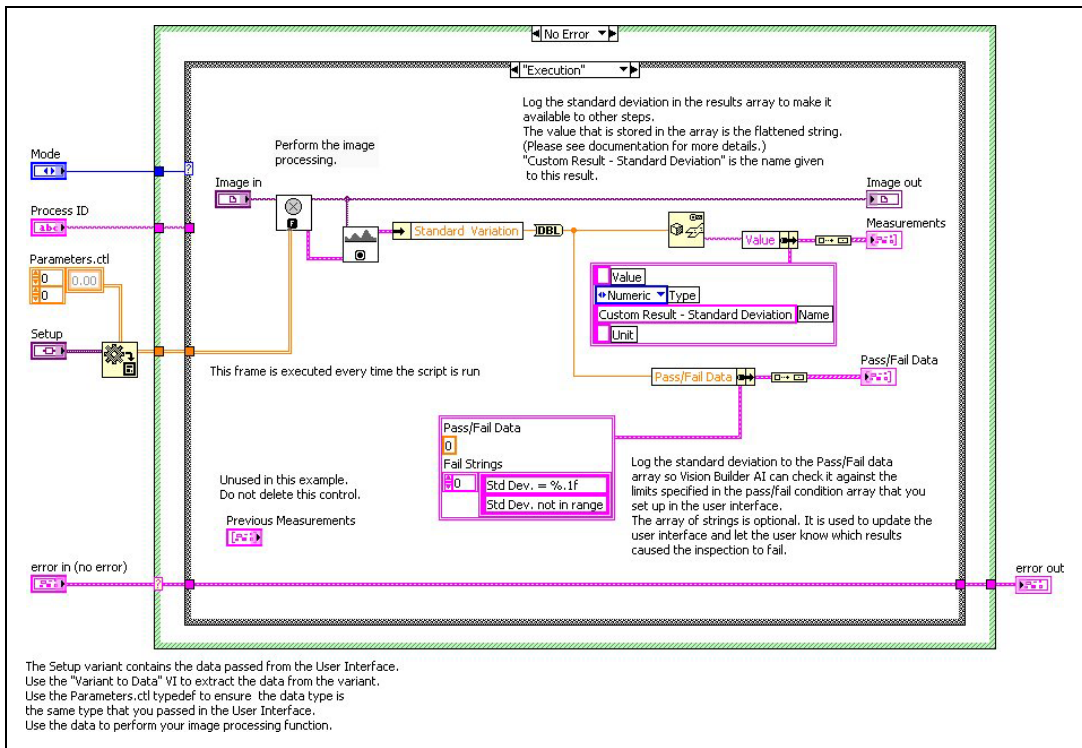

Figure 3. XXXX - User Programming Block Diagram for Setting Up Pass/Fail Handling
2. For each result you are testing against its corresponding limit condition set in the XXXX - User Interface VI, build a cluster in the Execution mode of the XXXX - User Programming VI, as shown in Figure 3.